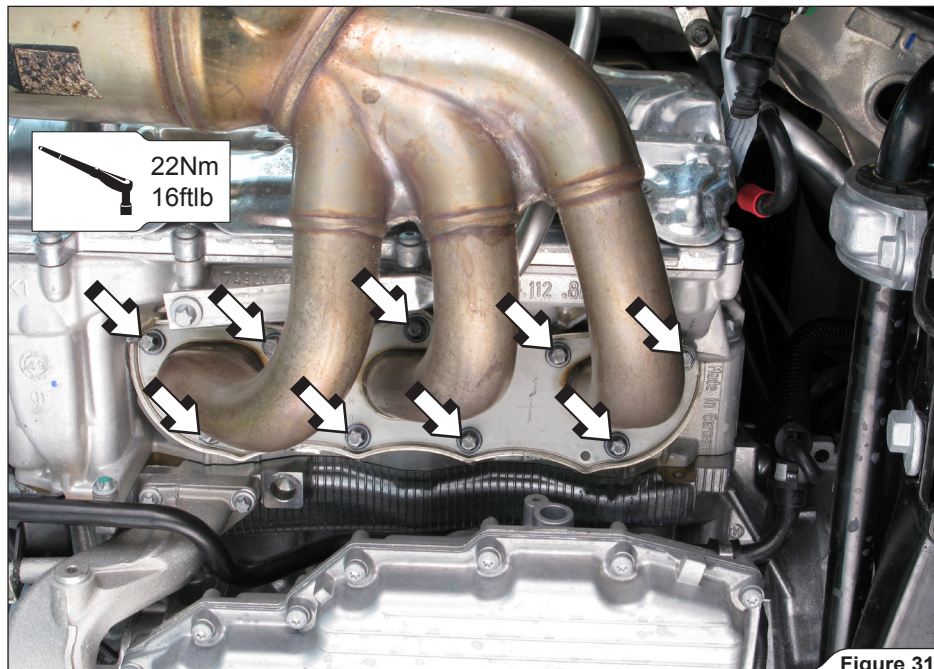

Figure 31
11. Retighten the header tubes' flange bolts on both sides of the engine (**Figure 31**).